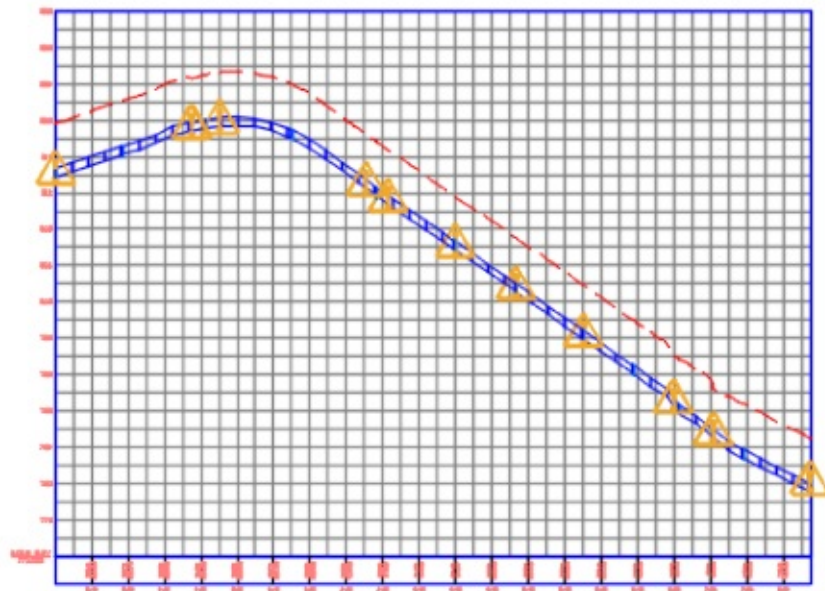

Figure 13.97 Depth Check result in plan (top) and profile : (bottom) views
13. In both plan view (Figure 13.97, top) and profile view (Figure 13.97, bottom), warnings will appear if any Depth Check violations are found.